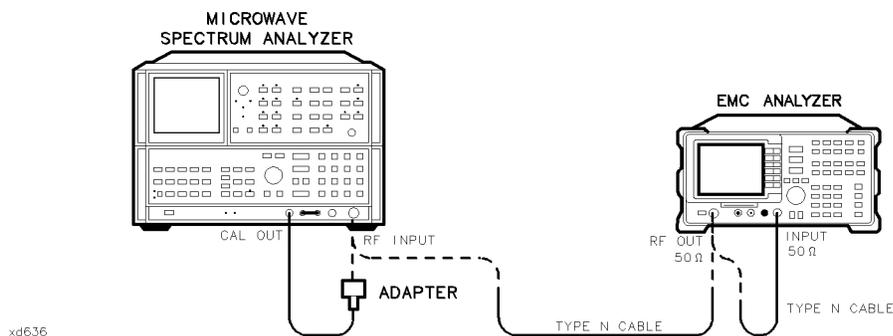

Figure 2-86.
2. Connect the Type N cable between the RF OUT 50 Ω and INPUT 50 Ω connectors on the EMC analyzer. See Figure 2-86.
6. Connect the Type N cable from the tracking generator output to the microwave spectrum analyzer RF INPUT. See Figure 2-86.